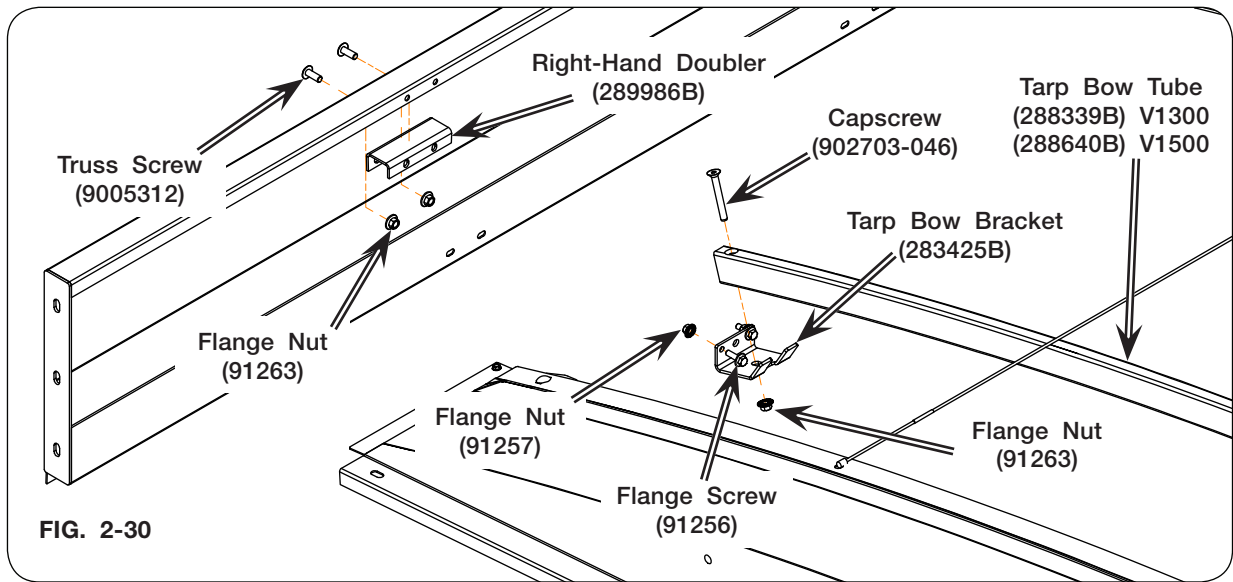

FIG. 2-30
NOTE: Ensure RH and LH doublers are inside the sideboard lip. See Figure 2-30.
1. For carts SN B40990100 & higher, install eight long tarp bows (288339B for V1300; 288640B for V1500) across the top of the cart, using right-hand bracket (283425B), left-hand bracket (283427B), RH doubler (289986B), LH doubler (281936B), 3/8"-16UNC x 3" capscrew (902703-046), 3/8"-16UNC (91263) flange nut, 5/16"-18UNC x 3/4" flange screw (91256) and 5/16"-18UNC flange nut (91257). See Figure 2-30.